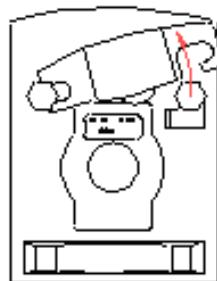

Fig. 2
3. Rotate the knifeholder counterclockwise and then pull it off to the right. Knifeholder is now free. (Fig.2)